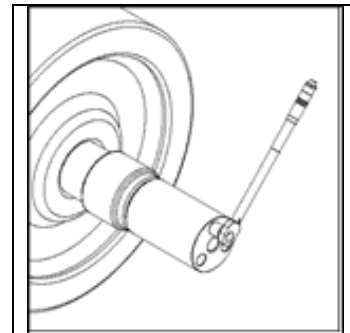

Figure 18 – Guide Tube Attachment
- 5.3.1 To install a bearing assembly on an axle; attach the Guide Tube to the end of the axle with the cap screws provided (Figure 18).